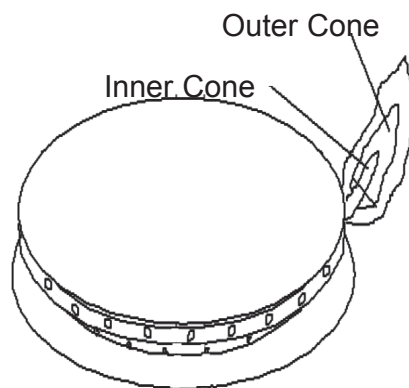

Figure 28
- iii) Check the quality of the flame. The top burners should have a steady, relatively quiet flame with a 1/2" (13mm) sharp blue cone. There should be no orange flame. The oven burner should have a clean blue flame with inner cones of 1/4" to 1/2" (6.35mm to 13mm). See Figure 28.